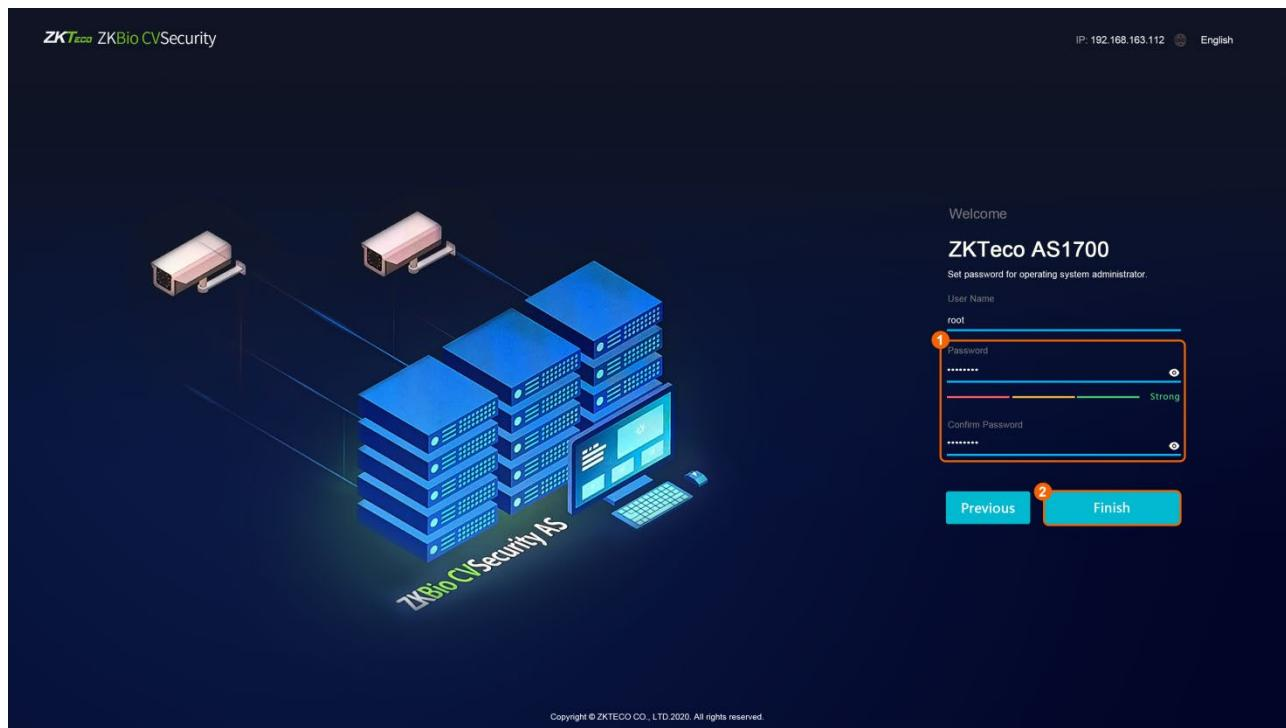

Figure 3-4 Setting the password for the **root** user of the operating system.
- Set the password of the **root** user of the operating system, as shown in the Figure 3-4.